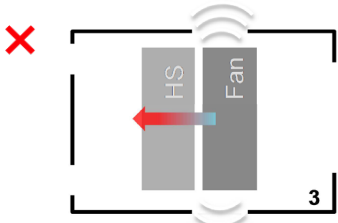

Figure 18. Design guidelines for active cooling solutions
- Unnecessary openings near the fan in the luminaire housing (Figure 18) should be avoided in order to help contain any noise from the fan.